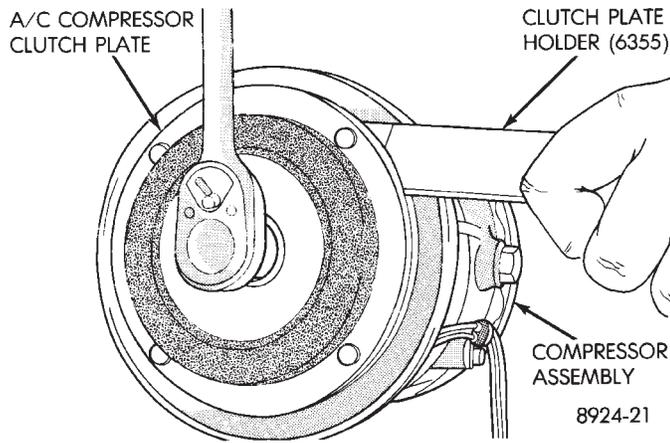

Fig. 3 Remove or Install Front Plate Retaining Nut
(1) Remove clutch retaining center nut by using Clutch Plate Holder (6355) (Fig. 3).